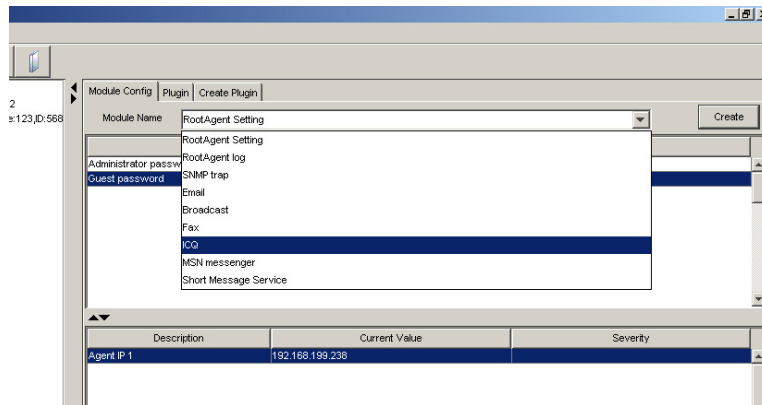

Figure 3-11: Module Name Pull-down List
Step 7. The **Module Configuration** window will display on the right of the **Configuration Client** User Interface. You may now start configuring event receivers under each notification method window. Click on the **Module Name** pull-down list to display all the configuration options. (See *Figure 3-11*)